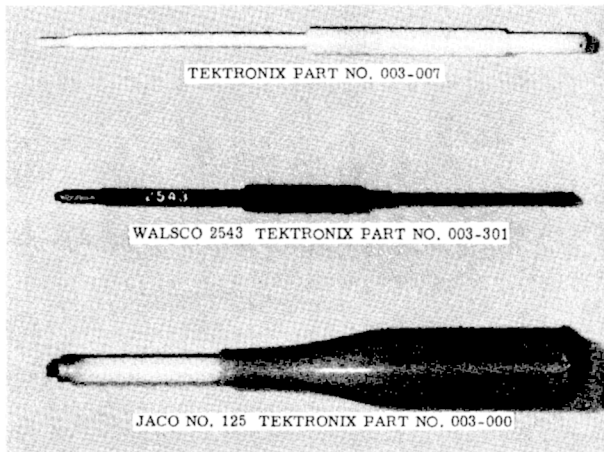

Fig. 5-1. Handtools necessary for calibrating the Type 316 Oscilloscope.
8. Insulated alignment tools, see Fig. 5-1.